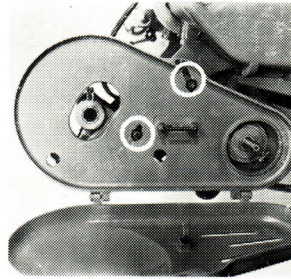

Fig. 10
- j** Mount the primary drive belt guard in position, attaching it by means of the $\frac{1}{4}$ " B.S.F. x $1\frac{1}{2}$ " cap screw and washer (QR41 and QR45) in the forward, lower slot. This screw is threaded into the hole provided in the countershaft arm. The $\frac{1}{4}$ " B.S.F. x $\frac{3}{4}$ " hexagon head screw (QR40) is used in the upper slot with one washer (QR15) on each side of the backplate. This screw is threaded into the end of the swing head pivot shaft (4) from which it was removed before the shaft was fitted. (See paragraph E.) Position the backplate so that the screws are about two thirds of the way along their slots, the backplate being near its forward position. Tighten the lower screw securely first. Now tighten the upper screw to draw the swing head pivot shaft through its bearings. Next, tighten the $\frac{1}{4}$ " B.S.F. cup point socket set screw in the countershaft arm to lock the pivot shaft. (Fig. 10)
- k** Replace the Woodruff key in the $\frac{3}{8}$ " diameter portion of the countershaft (6) and mount the two step pulley (7) on to the shaft, the longer boss first. Press the pulley firmly against the shoulder on the shaft and lock the securing screw tight.